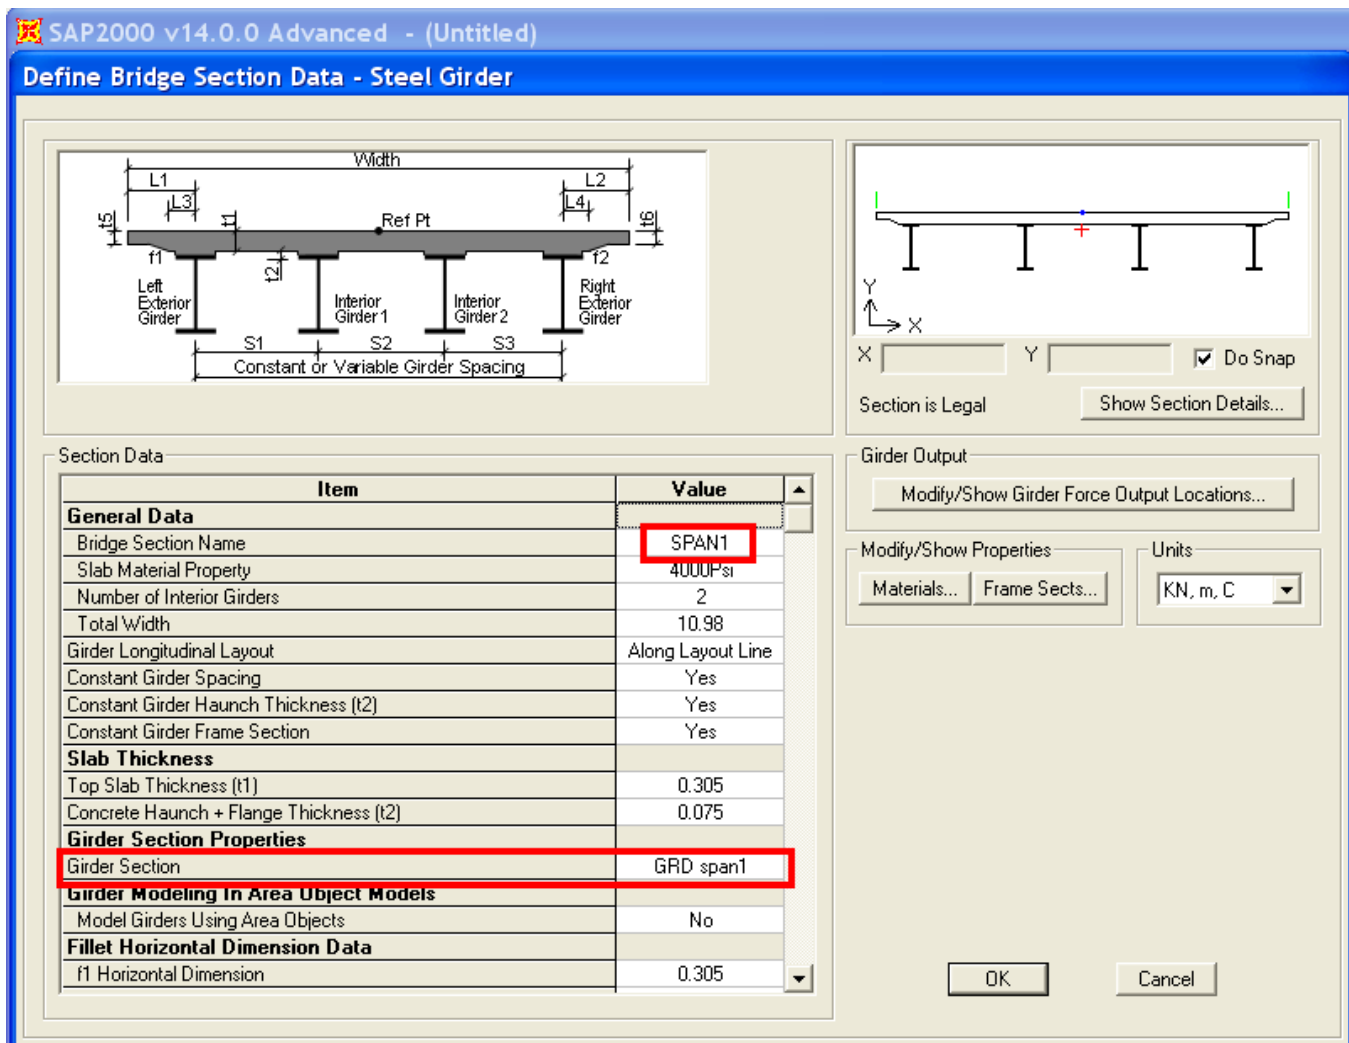

Figure 2 - Bridge section data
- Use the Bridge > Deck Section > Add Copy of Section menu command to create bridge sections to be assigned to the first and the second spans of the bridge object. Name these sections SPAN1 and SPAN2, and utilize the previously-defined non-prismatic girder sections 'GRD span1' and 'GRD span2', as shown in Figure 2: